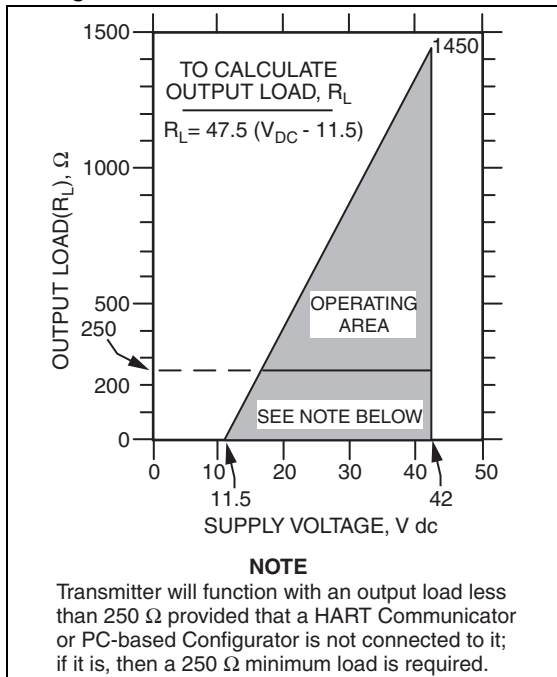

Figure 12. 4 to 20 mA Output, Supply Voltage vs. Output Load
Nominal minimum supply voltage is 11.5 V dc. See Figure 12.
- (g) See Figure 12 for minimum load required for proper HART communication.